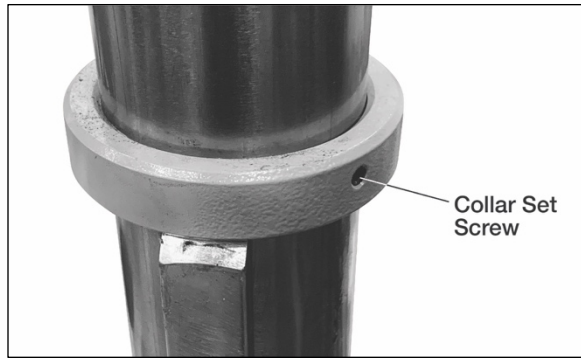

Figure 6-5
9. Place collar onto column and slide it down over top edge of rack. Tighten set screw on collar (Figure 6-5).